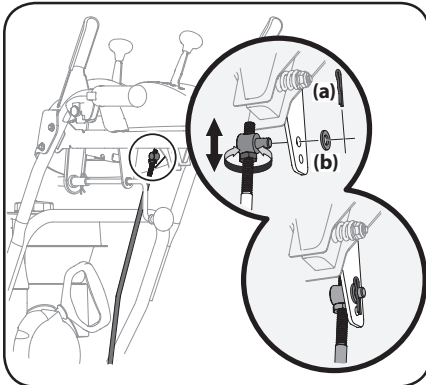

Figure 4-7
2. Remove cotter pin (a) and washer (b) from adjustment ferrule on shift rod and pull it out from shift lever. See Figure 4-7.
4. Rotate ferrule up or down on shift rod as necessary until it lines up with upper hole in shift lever. Refer to Figure 4-7 inset.